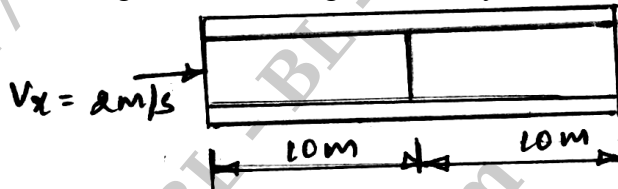

Fig Q8
- 8 For the smooth pipe shown in Fig Q8, with uniform c/s of 1 m^2 , determine the flow velocities at the centre and right end, knowing the velocity at the left is $V_x = 2 \text{ m/s}$.